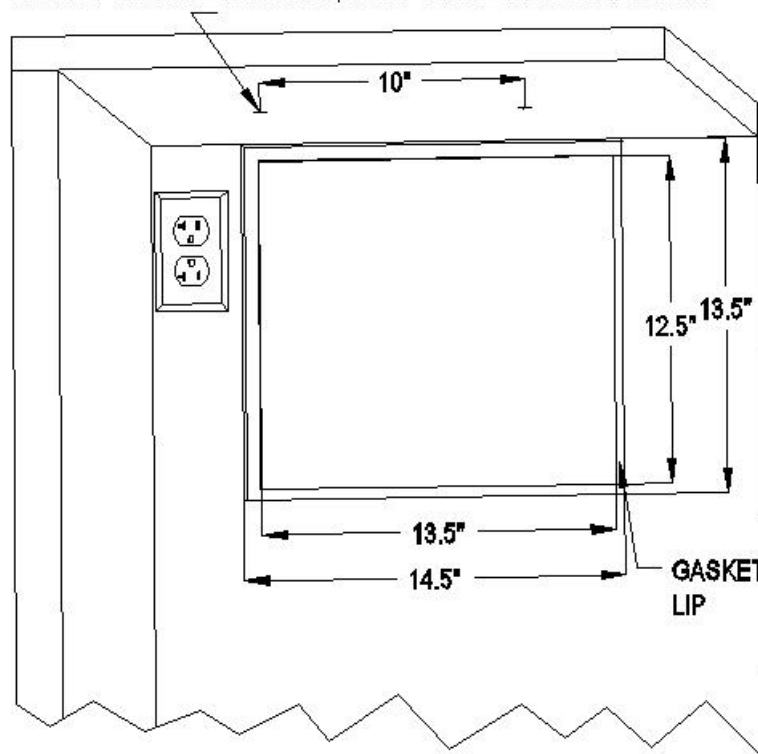

Fig. 2.1 CABINET CUTOUT & GASKET LIP
- Cut a rectangular inside opening with the 1/4" clearance inwards to the width and height of the cooling unit. By not going through, leave 1/2" lip inside at the wall to place the gaskets (see Fig 2.1 & 2.2).
- Make 2 holes at the ceiling to install the 1/4" inside diameter wood thread inserts (see Fig.2.1 & 2.4).